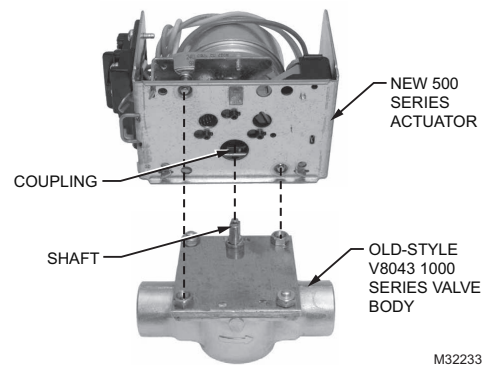

Fig. 7. Installing New 510 Series Actuator on a V8043 1000 Series Body.
2. Align the actuator coupling with the shaft. (See Fig. 7.)